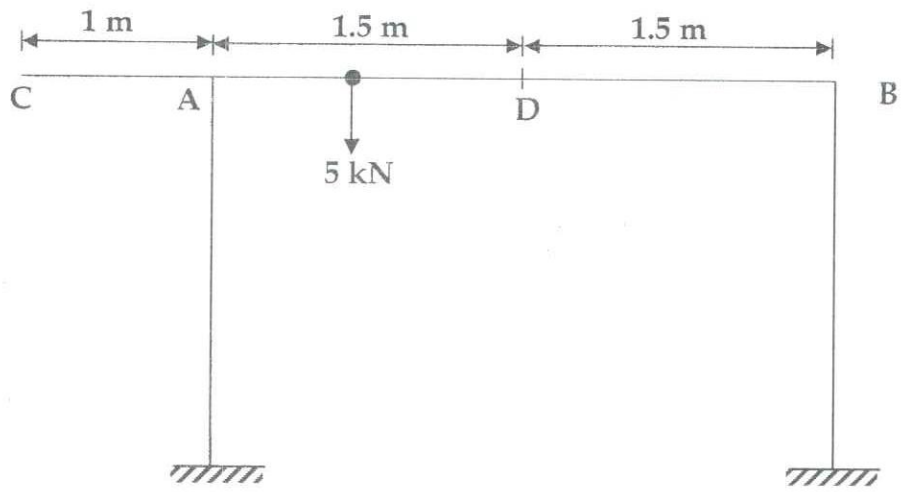

Figure Q3
b) Figure Q3 shows a frame structure used to support a hoist for transferring loads for storage at points underneath it. It is found that the load on the dolly is 5 kN and the beam CB has a mass of 24 kg/m. Assume the dolly has negligible size and can travel the entire length of the beam. Also, assume A is a pin and B is a roller. Determine,